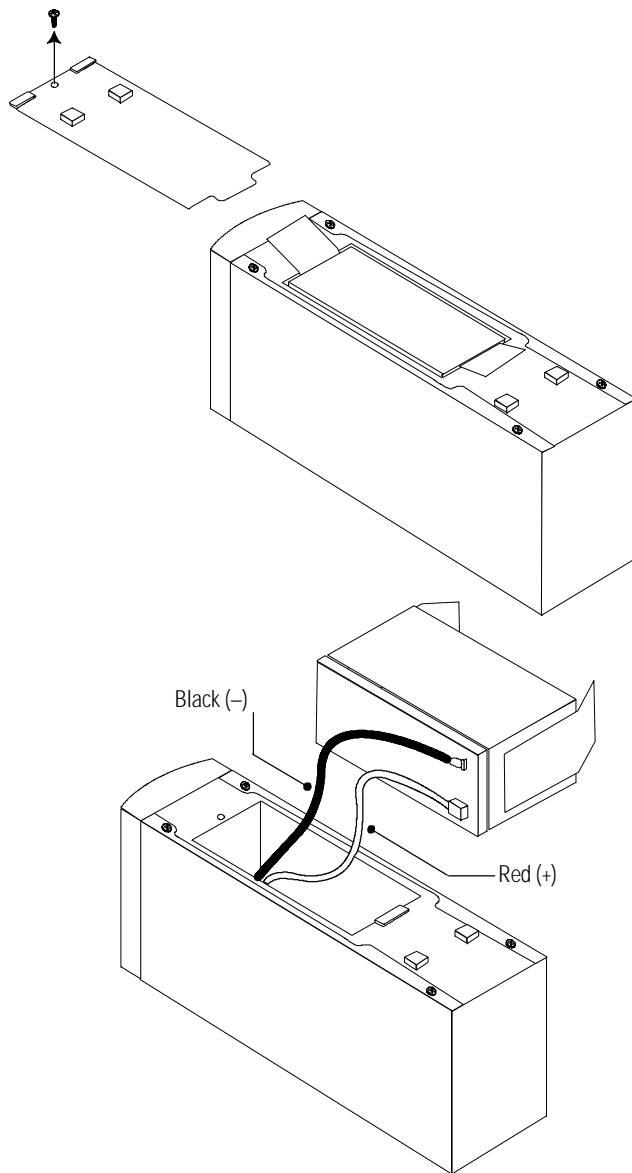

Figure 9. Replacing Batteries (300 VA and 420 VA models)
3. Turn the UPS over and remove the screw(s) holding the battery door in place on the bottom of the UPS. Slide the door off (see Figure 9 and Figure 10).